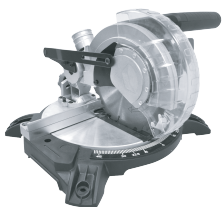

Fig.7
1. RELEASING THE SAW HEAD (Fig.7, 8)